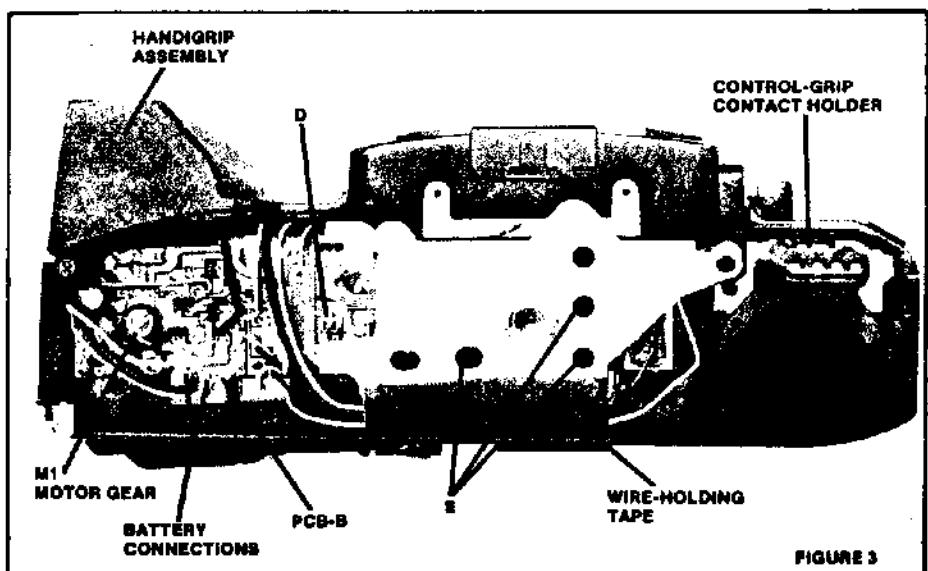
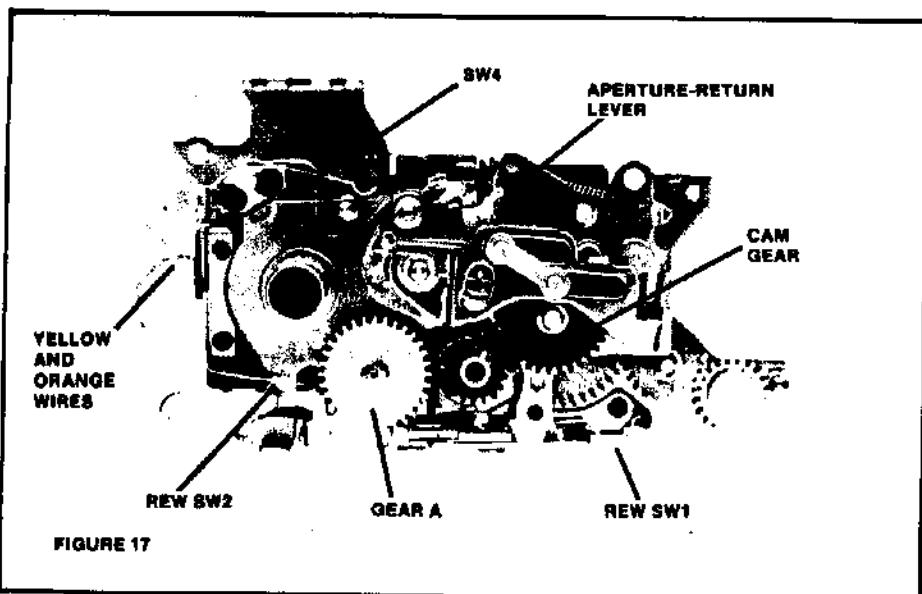

FIGURE 3
FIGURE 17
- Fig. 3—bottom cover removed
Note: To check SW4, rotate the motor gear, Fig. 3, from the bottom. Use a spanner that fits the two slots at the top of the motor gear.
- Rotate the M1 motor gear from the bottom, Fig. 3, in the reverse direction (CCW) to raise the mirror. SW4 should now be open, and the ohmmeter should show infinite resistance.
- After the mirror has reached the up position, start rotating the motor gear in the advance direction (CW). As you start turning the motor gear, you
- e. Adjust by bending the SW4 contact, Fig. 17 (with SW4 open, the fixed contact should be against the plastic post as shown in Fig. 17).
SW4. Winding-completion switch in wind-gear unit, Fig. 17. Switches on at the start of the M1 forward cycle to keep the winding motor running. Opens at the end of the wind cycle to shut off the motor.
REW SW2. Rewinding switch 2, Fig. 17. Closes when the rewind lever latches in the rewind position. The winding motor M1 now runs in the forward direction to rewind the film.